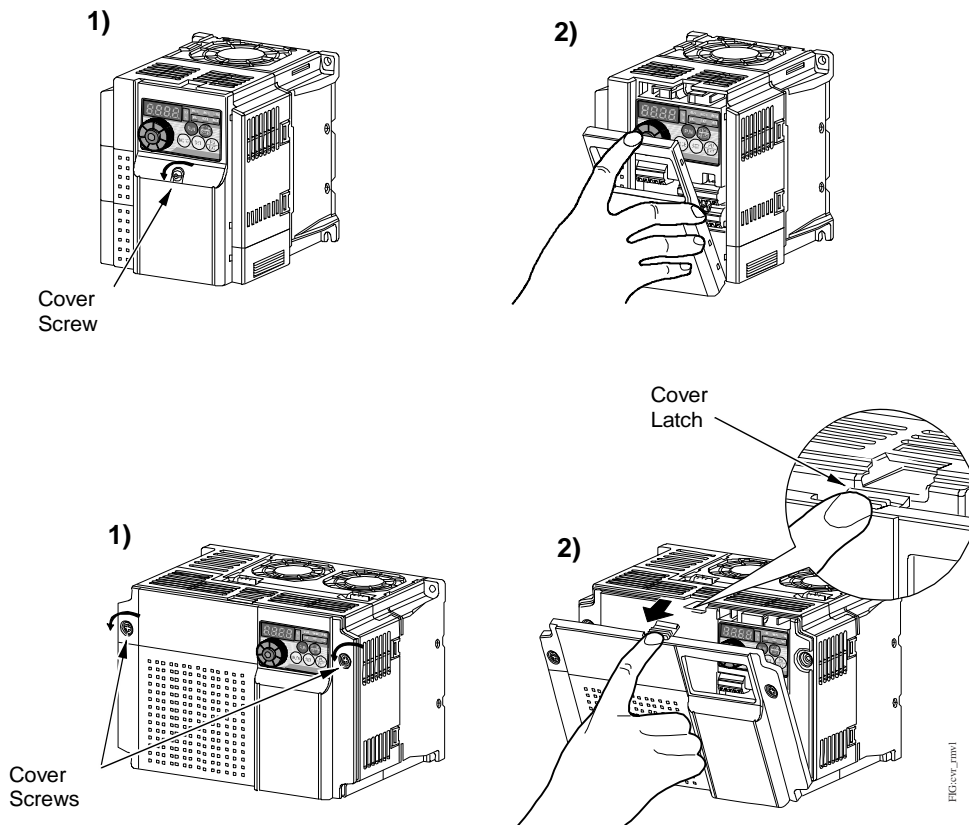

Figure 4: Loosen the Cover Screws and Remove the Front Cover
1. Loosen the screws on the front cover and remove the cover (Figure 4).